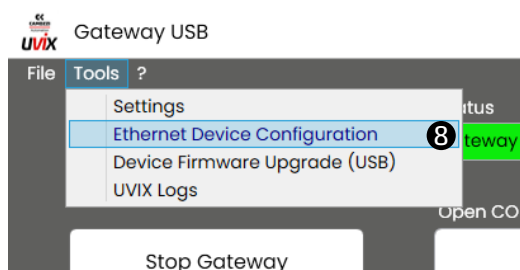

Figure 7.25: Ethernet device configuration section.
The USB Gateway also allows to connect to the DRVI using Ethernet instead USB, but is necessary to enable Ethernet over EtherCAT (or "EoE") functionality before. To enable this feature, refer to the manual of the PLC you are using. After enabling EoE you can configure GatewayUSB to connect with your device via Ethernet ⑧ (see Figure 7.25).